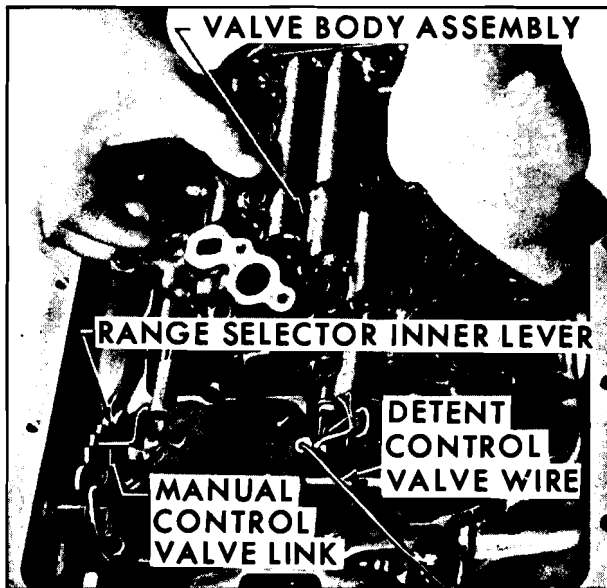

Fig. 7G-14 Removing Valve Body Assembly
7. Remove seven (7) spacer support plate bolts and remove spacer support plate from case (Fig. 7G-15).
9. Remove four (4) check balls from cored passages in case face (Fig. 7G-16).
10. Remove oil pump pressure screen from oil pump pressure passage in case and clean (Fig 7G-17).